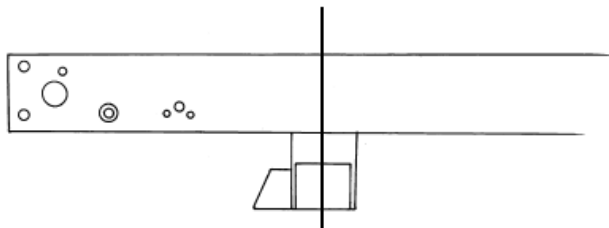

Figure 4- Trial Fit Crossmember
6. Trial fit the new crossmember up into the rails centering it on the scribed spindle centerline. See **Figure 4**. If it does not quite fit into the frame, slightly grind the upright ends of the crossmember until you can get it into place. Make sure that the crossmember is fully seated on the underside of the frame. Tack weld in place, double check the location and weld in place. Weld all around both ends, top, sides, and the underside of the bottom of the frame.